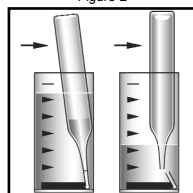

Figure 3
For CHEMetrics photometers, follow the **Setup and Measurement Procedures** in the operator's manual. For spectrophotometers, set the wavelength to 560 nm. A sealed ZERO ampoule is supplied in this kit for zeroing when the sample is colorless and not turbid. For improved accuracy with colored or turbid samples, Sample Zeroing Accessory Pack, Cat. # A-0503 is recommended. Using the sample cup, snap the tip of the A-0503 ampoule in the sample (see figure 3 below). Invert the ampoule to mix. Dry the ampoule and use it in place of the supplied ZERO ampoule to zero the instrument.
3. Immediately place the Vacu-vial ampoule, tip first, into the sample cup and snap the tip. The ampoule will fill leaving a bubble for mixing (fig 3).